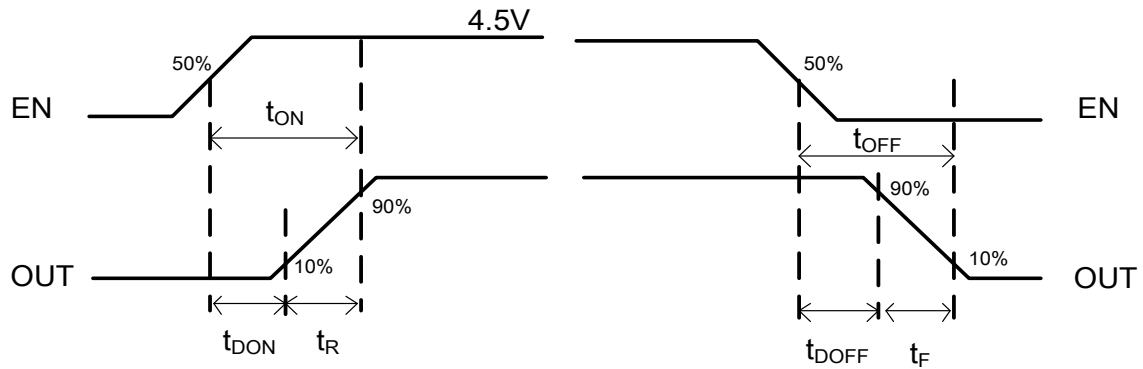

Figure 2. Timing Diagram
- t_{DON} / t_{DOFF} / t_R / t_F are defined in Figure 2.